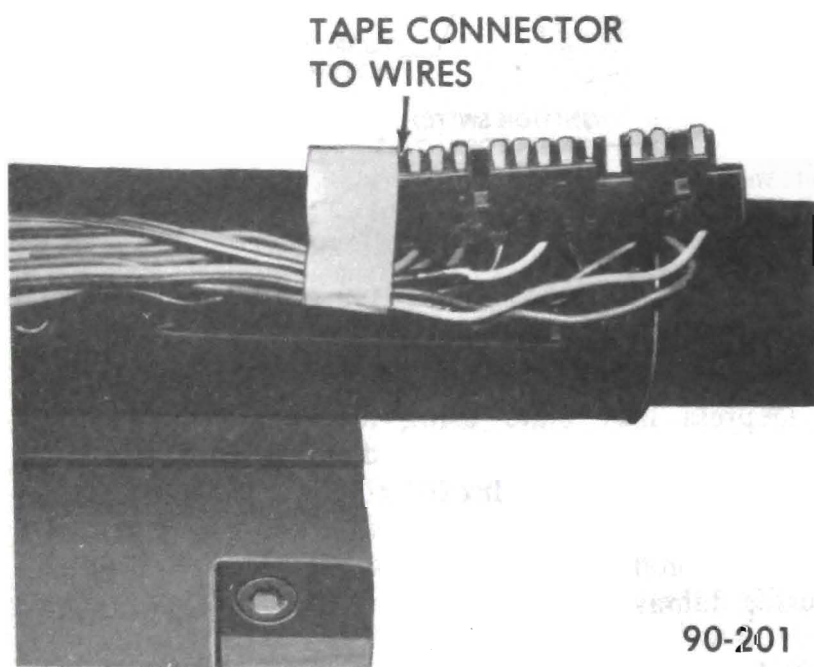

Figure 90-85 Tape Connector to Wires
8. Remove three turn signal switch mounting screws. Pull the connector out of the bracket on the jacket. Wrap a piece of tape around the upper part of the connector and wires to prevent snagging when removing switch. See Figure 90-85.